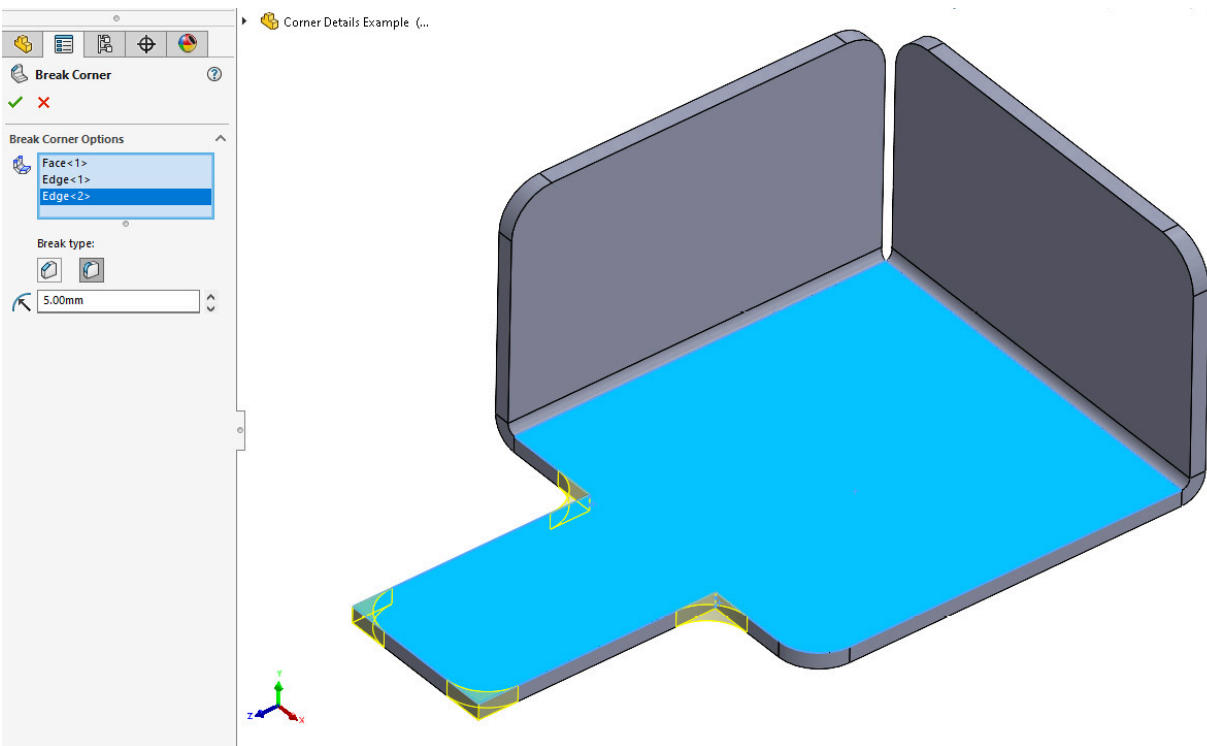

Figure 9.12: Manually selecting internal corners
4. Zoom in and manually select the two *internal* corners (Figure 9.12). Creating internal broken corners adds material, whereas creating external broken corners removes material.